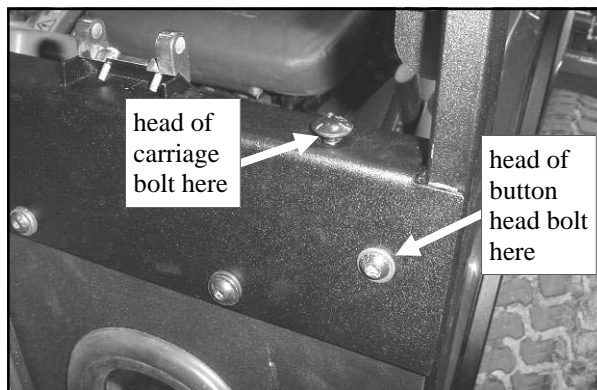

Fig. 4.3 (view from front left side of tractor)
4.3 Per fig. 4.3, install this cowl assembly over the hood of the tractor so the two 90 degree bends on the cowl are inside the side frame tubes. Use the following hardware per side: one 5/16" x 1" long carriage bolt, one steel washer, and one locknut in the square hole in the top flange of the cowl. One 5/16" x 1" long button head bolt, one plastic washer, two steel washers, and one locknut in the slotted hole in the front of the cowl. Do not tighten the bolts.